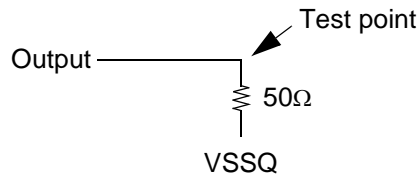

Figure 2 : Pullup slew rate test load
- For each of the terms above, if not already an integer, round to the next highest integer. Example: For DDR266B at CL=2.5 and tCK=7.5ns $tDAL = (15 \text{ ns} / 7.5 \text{ ns}) + (20 \text{ ns} / 7.5 \text{ ns}) = (2) + (3) \text{ } tDAL = 5 \text{ clocks}$
a. Pullup slew rate is characterized under the test conditions as shown in Figure 2.